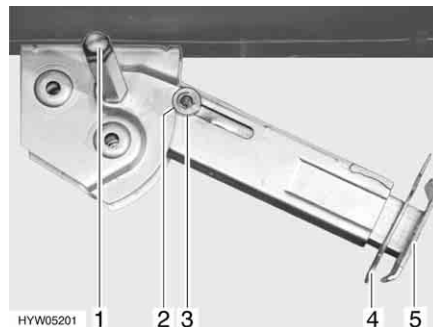

Fig. 28 Steady leg
- Place the socket spanner on the hexagon nut (Fig. 28,1) and rotate until the steady leg is in a perpendicular downward position.
- Remove the splint (Fig. 28,4) out of the support foot extension (Fig. 28,5).
- Place the socket spanner on the hexagon nut (Fig. 28,1) and rotate until the steady leg is clear of the ground.
- Push in the support foot extension (Fig. 28,5) and insert the splint (Fig. 28,4) in the drilled hole in the support foot extension.
- Rotate the hexagonal nut (Fig. 28,1) with the socket spanner until the steady leg has swung upwards and the guide disc (Fig. 28,3) has completely retracted into the notch (Fig. 28,2).